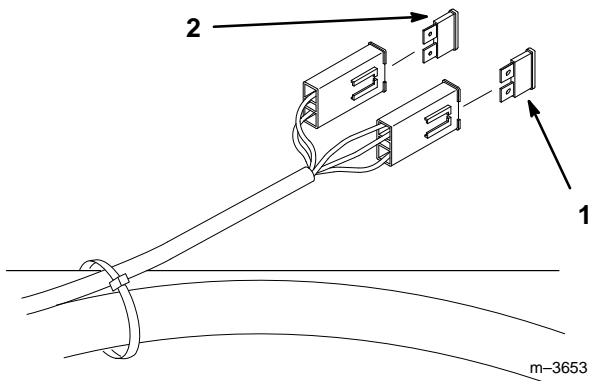

Figure 43
1. Raise the seat to gain access to fuse holder (Fig. 43).
2. To replace fuses pull out on the fuse to remove it (Fig. 43).